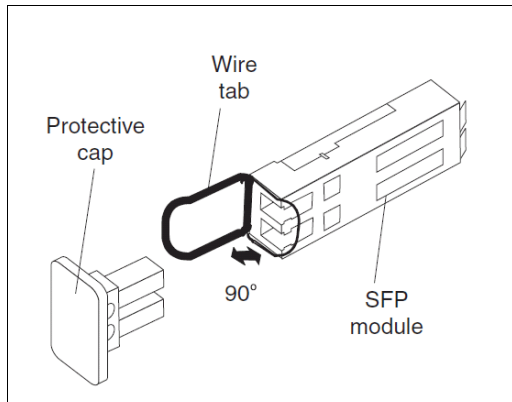

Figure 4-14 Unlocking the SFP module latch - wire variety
- For SFP modules that contain wire tabs, unlock the SFP module latch by pulling the wire latch outward 90°, as shown in Figure 4-14 on page 96.